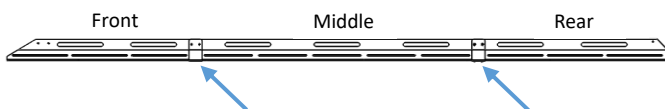

Figure 7: Side Bracket Locations
4. Separately, assemble the driver and passenger-side rails using the side rail brackets to combine the front, middle, and rear together using #10-32 x 3/8" bolts and washers (See Figure 7 & 8). This roof rack has 2 per side.